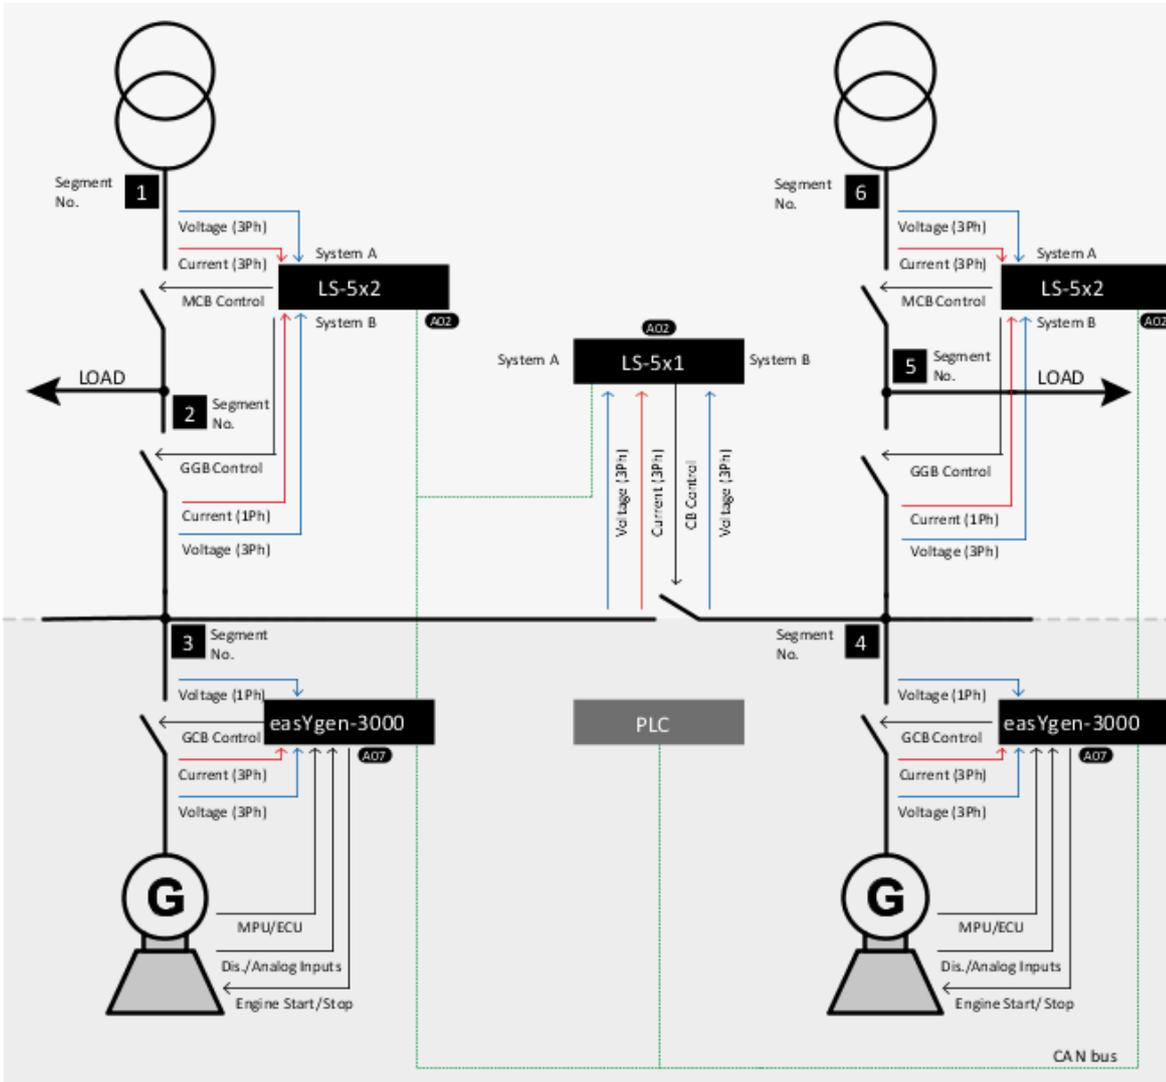

Fig. 139: H-Configuration with two easYgen and two incoming mains and tie-breaker
One or more genset(s) feed on a generator busbar (Fig. 139 / Segment No. 3). One or more genset(s) feed on a generator busbar (Fig. 139 / Segment No. 4). On each mains income side (Fig. 139 / Segment No. 1 and 6) a load output (Fig. 139 / Segment No. 2 and 5) is installed, which is switched to mains or to generator(s) by an LS-5x2. The LS-5x2 acts thereby with its CBA on a mains breaker (MCB) and with its CBB on a group breaker (GGB). The LS-5x2 could operate an ATS, a Changeover Panel or two separate breakers to fulfill it. Generator mains parallel operation is also possible. A tie-breaker is located between the both generator segments.
1. ➤ The system A voltage and current measurement is connected to the generator busbar segment (Fig. 139 / Segment No. 3).
2. ➤ The system B voltage measurement is connected to the generator busbar segment (Fig. 139 / Segment No. 4).